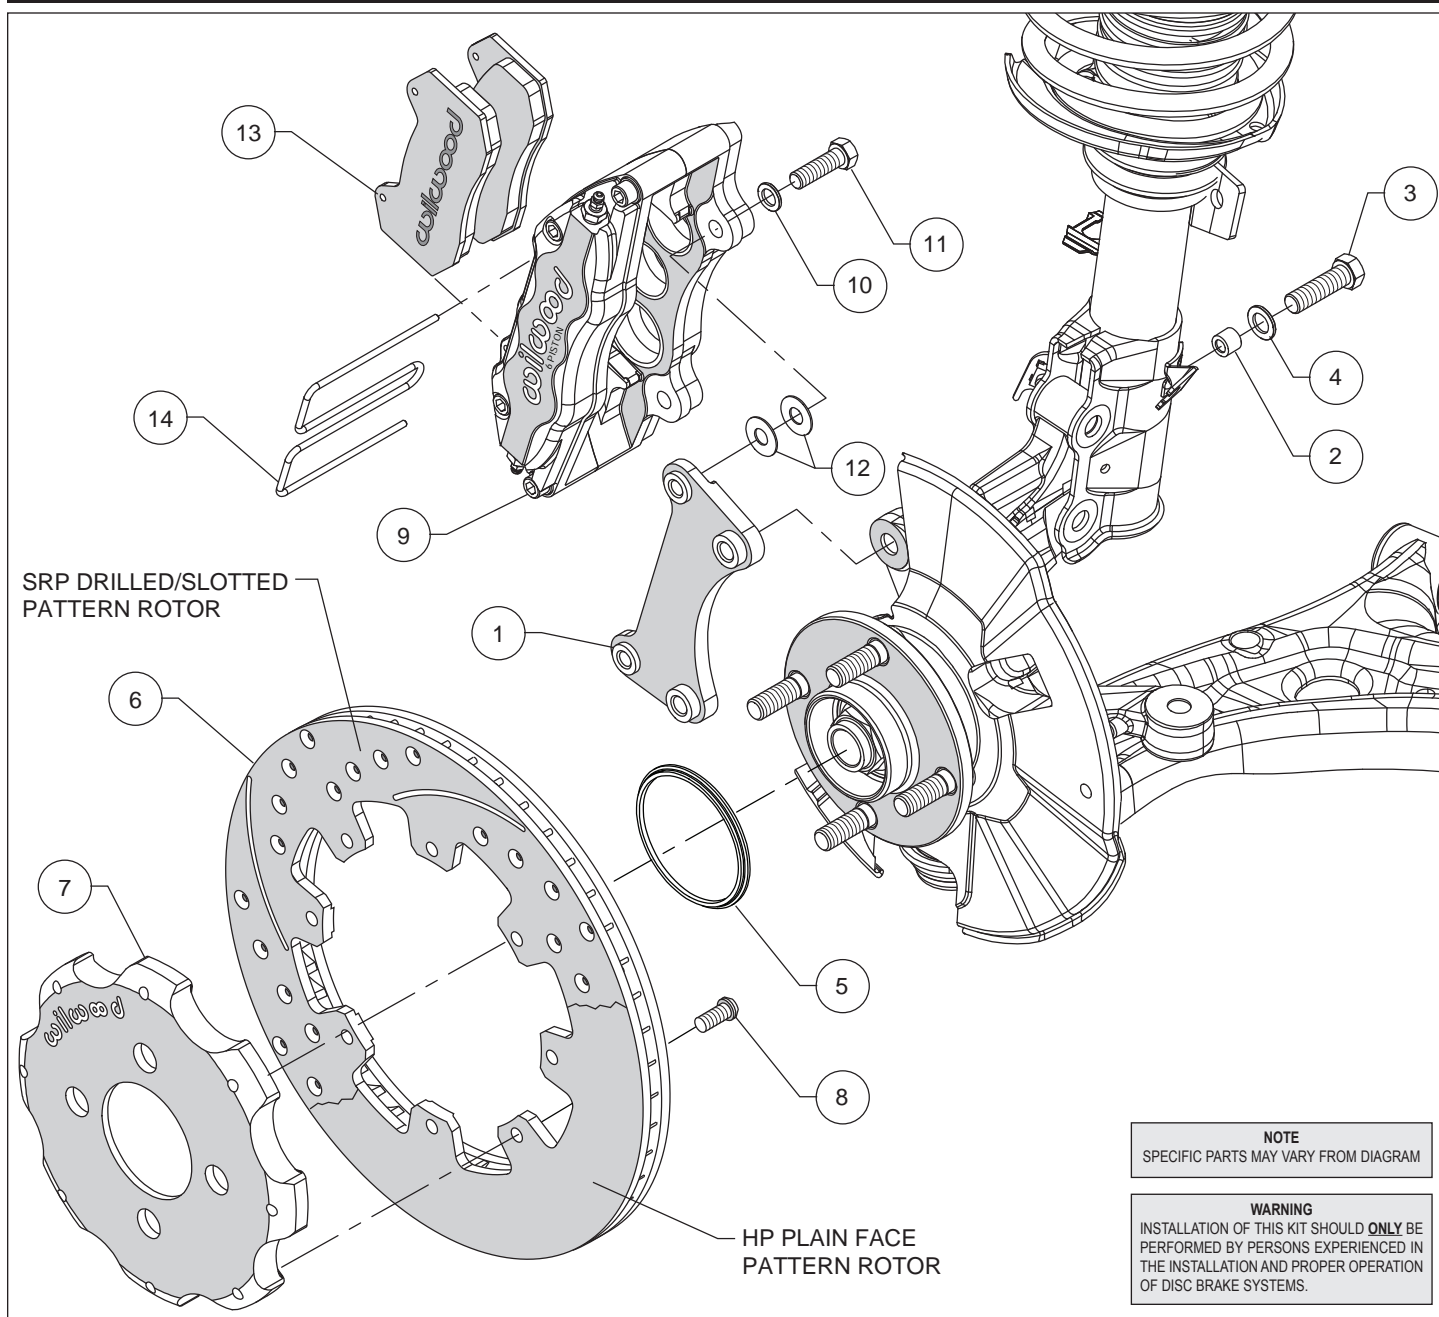
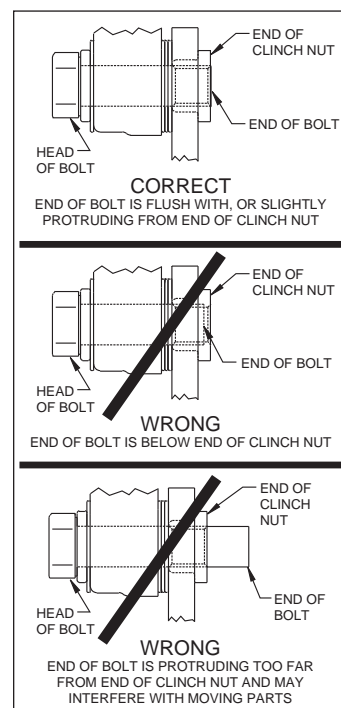

Figure 1. Typical Installation Configuration
Figure 3. Clinch Nut Engagement Diagram
Assembly Instructions (numbers in parenthesis refer to the parts list and Figure 1 on the preceding pages): **CAUTION:** All mounting bolts must fully engage clinch nuts. Be sure to check that all bolts are either flush or protruding through flanged side of clinch nut after shimming, Figure 3.
- Orient the caliper mount bracket (1) as shown in Figure 1 and Photo 1, and install using bolts (3) and washers (4). Insert one sleeve (2) into each of the holes in the spindle “ears” where the Original Equipment Manufacturer (OEM) caliper bracket was removed.. Ensure that the flanged heads of the clinch nuts in the bracket are facing outboard, Photo 1. Temporarily tighten the mounting bolts. **NOTE:** The bracket must fit squarely against the mount bosses on the upright. Inspect for interference from casting irregularities, machining ridges, burrs, etc. Remove bolts one at a time, apply red *Loctite*® 271 to the threads and torque to 60 ft-lb.
- Orient the rotor (6) and the hat (7) as shown in Figure 1 and Photo 2. Attach rotor to hat using bolts (8). Using an alternating sequence, apply red *Loctite*® 271 to the threads, and torque to 25 ft-lb.
- Slide the rotor registration adapter (5) onto the axle register on the axle hub with the smaller O.D. facing toward the rotor/hat (6/7), Photo 3. Slide the hat/rotor assembly onto the axle hub, Photo 4. **NOTE:** The hat must fit flush against the axle hub flange or excessive rotor run out may result. Install three lug nuts (finger tight) to keep the hat/rotor assembly in place while continuing with the installation.
- **NOTE:** Please reference the caution statement at the beginning of the assembly instructions. This kit contains distinct right and left hand calipers that must be mounted in a specific direction, as described below. Mount the caliper (9) onto the caliper mounting bracket (1) using bolts (11) and washers (10), as shown in Figure 1. Initially place two .035" thick shims (12) on each bolt between the caliper and the bracket, Photo 5. Ensure that the caliper is mounted so the largest pistons are at the rotor exit end of the caliper, in relation to the direction of rotor rotation. Temporarily tighten the mounting bolts and view the rotor (6) through the top opening of the caliper. The rotor should be centered in the caliper, Photo 6. If not, adjust by adding or subtracting shims between the bracket and the caliper. Always use the same amount of shims on each of the two mounting bolts. **NOTE:** The end of each bolt must be flush with or slightly protruding from the head of the clinch nut, as shown in Figure 3. If necessary place spare shims between washer (10) and caliper mounting ear to achieve the proper clinch nut engagement. Once the caliper alignment and clinch nut engagement are correct, remove the bolts one at a time, apply red *Loctite*® 271 to bolt threads, and torque to 40 ft-lb..